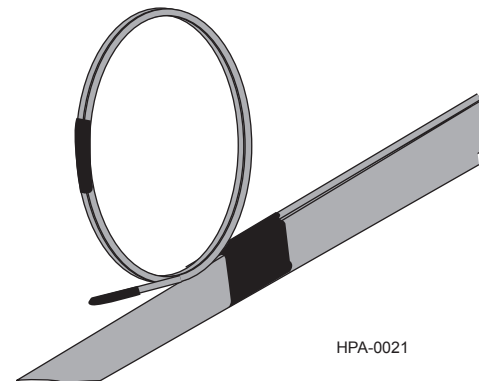

Figure 5
- Step 1:** Place a piece of electrical tape over the end of the wire (Figure 5).